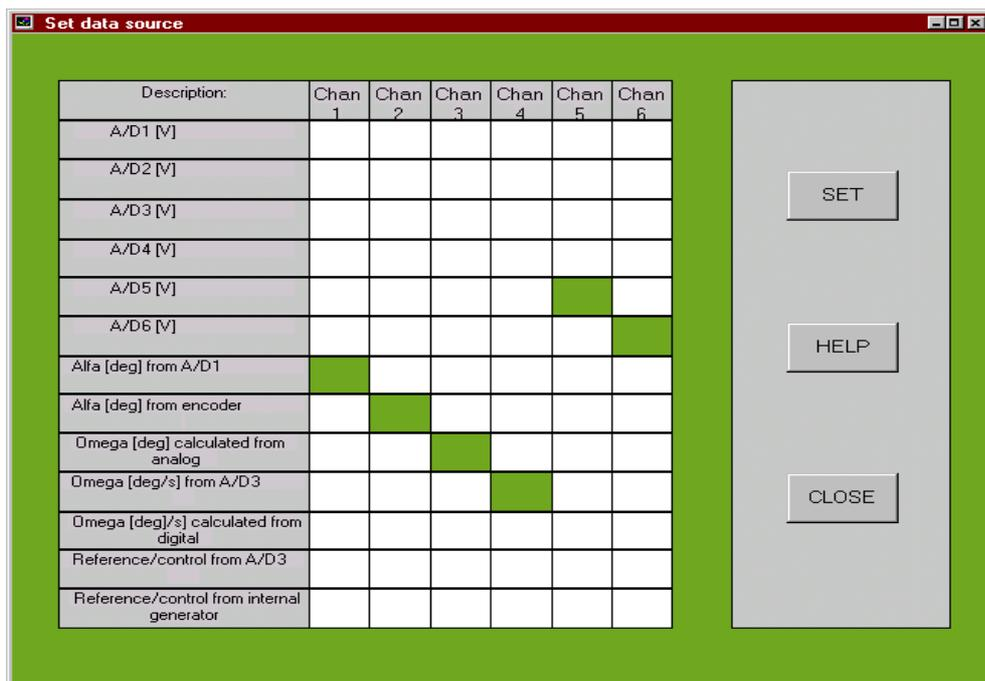

Figure 4-2: *Set data source* window (alfa is angle and omega angular velocity)
- 7) *Set data source* - defines the source of the process output data and the source of the reference inputs. After clicking on it the window shown in Figure 4-2 opens.
In this window you can define the source of data for the six logical data measurement channels available in the RTK buffer (see Figure 4-2).
In the example shown in Figure 4-2 the data source is defined as follows: